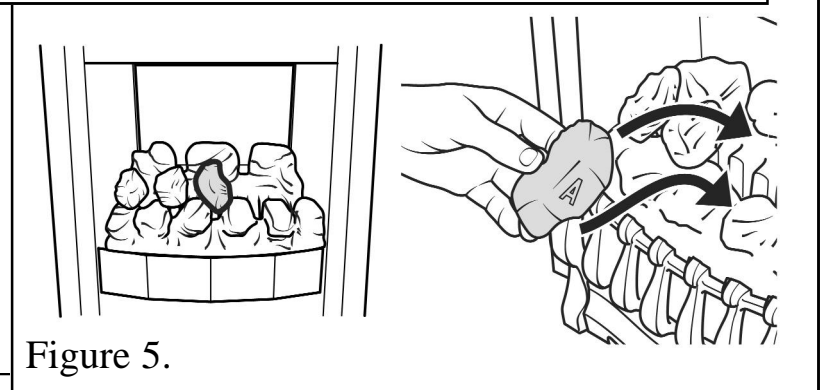

Figure 5.
**5.** Place a type “A” coal between the front and rear base coals with the letter “A” upright. The top of the coal should rest against the centre coal of the rear base coal as shown in figure 5.